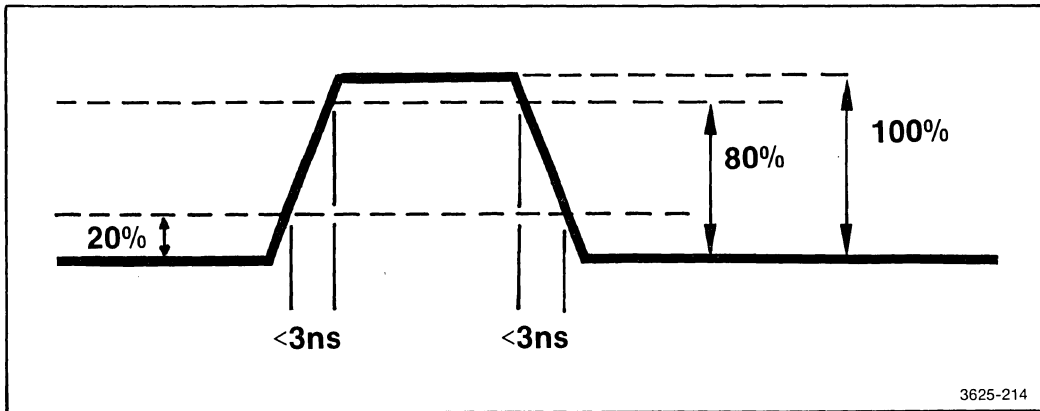

Figure 5-87. P6452 rise and fall times.
4. With one channel of the oscilloscope, examine each output signal from the probe for rise and fall time. Both the rise and fall times should be less than 3 ns from 20% to 80%. See Figure 5-87.